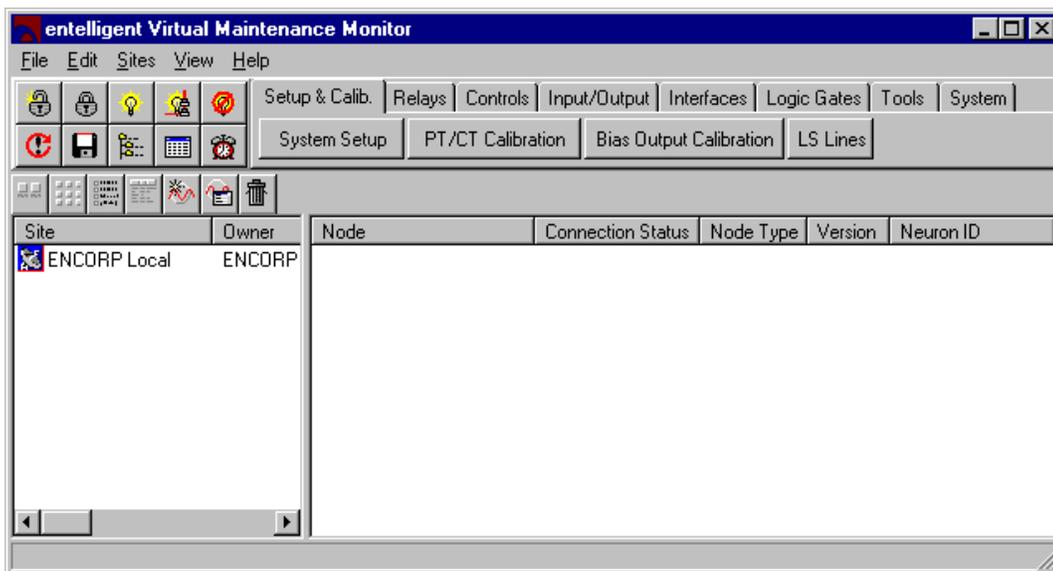

Figure 1-3 Site Name Displayed in User Interface
- The software displays the new site in the left pane of the user interface, as shown in Figure 1-3.
Notice the site name in Figure 1-3, ENCORP Local, in the left pane of the user interface. All sites that you add will be displayed in this pane. You can choose to display sites in list format as shown here, or using larger icons. The software displays a vertical scroll bar if you add more sites than it can display at once.